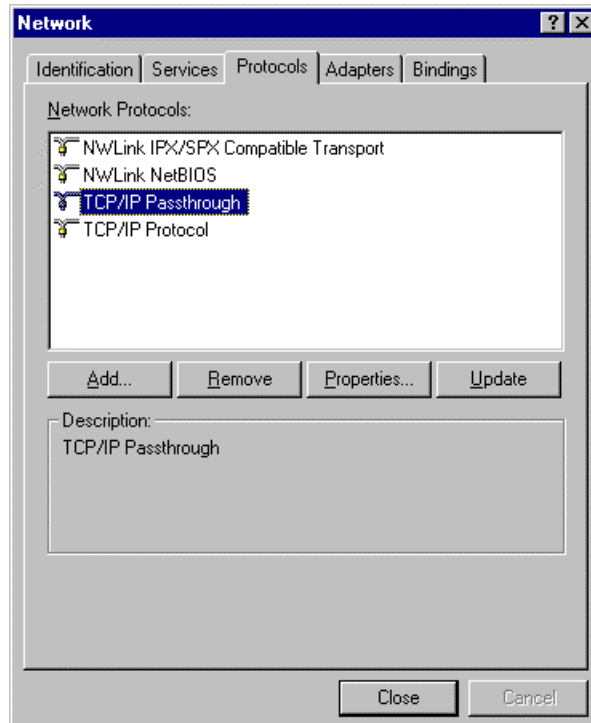

Figure 15-23. TCP/IP Passthrough Protocol
1. From the Network ICON in the Windows NT Control Panel, verify that TCP/IP Passthrough is installed as a protocol (Figure 15-23).